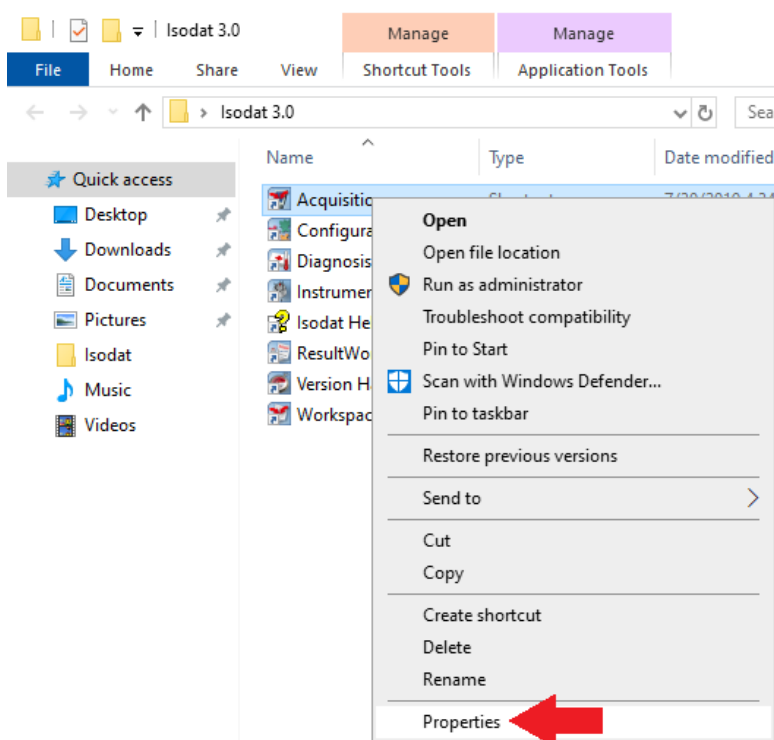

Figure 3-13. Context menu - Properties
3. From the context menu, select **Properties**, see Figure 3-13.